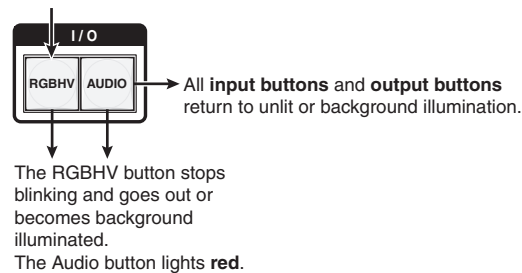

Figure 3-38 — Deselect RGB Delay mode
5. Press and release the RGBHV button (figure 3-38).